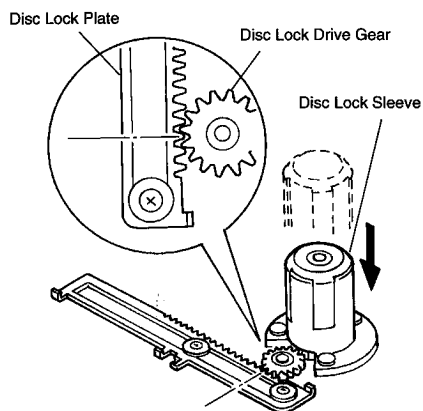

Fig. 3.2
- (1) Lower the Disc Lock Sleeve until it reaches the lowest position. Namely, turn the Disc Lock Drive Gear fully clockwise until it stops.
- (2) Install the Disc Lock Plate so that its 3rd tooth engages with the Disc Lock Drive Gear as shown in Fig. 3.2.